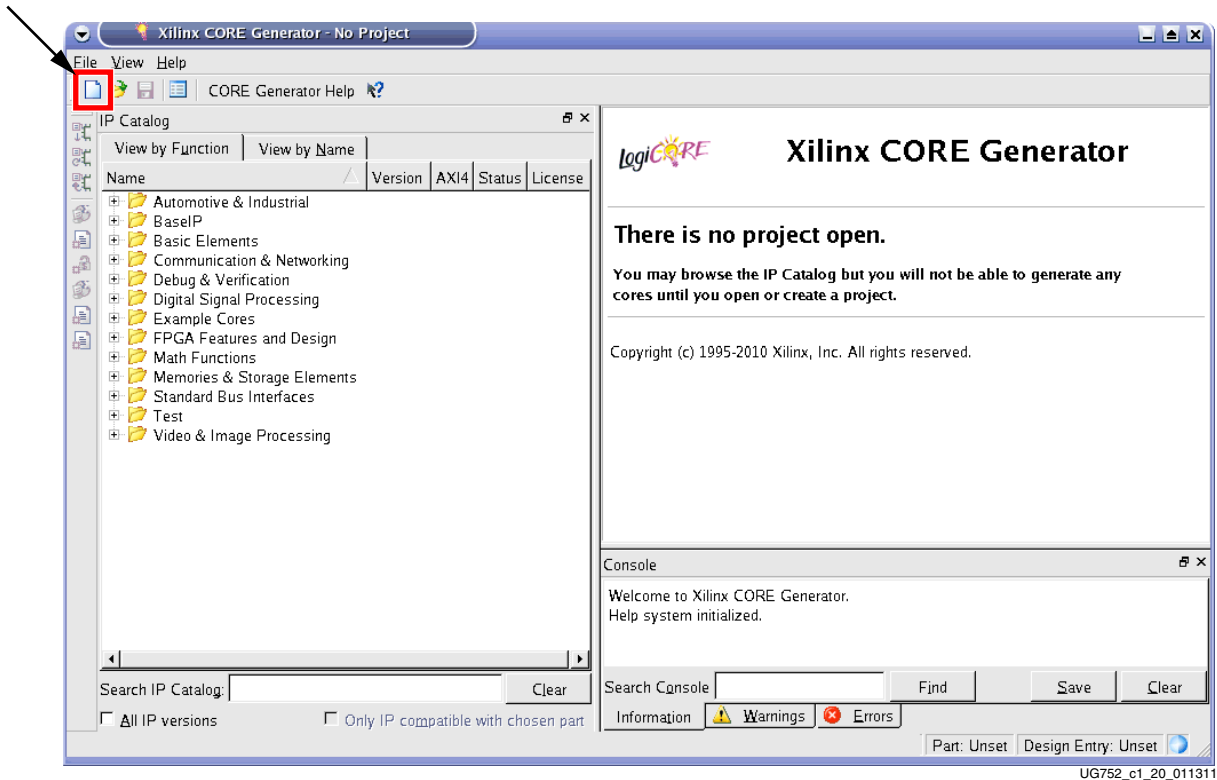

Figure 1-17: Open New Project
4. When the Core Generator window appears on screen, click the **New Project** icon (highlighted in Figure 1-17).